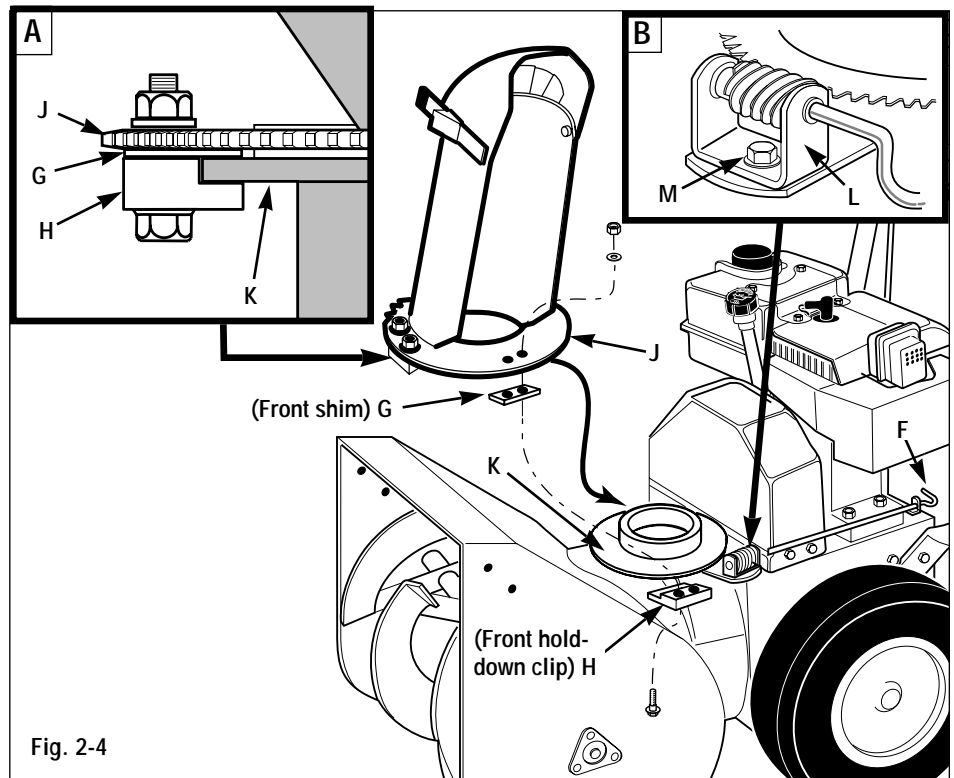

Fig. 2-4
2. Loosen (do not remove) the left and right side sets of plastic shims (G, Fig. 2-4, inset A) and plastic hold-down clips (H, Fig. 2-4, inset A) on the toothed flange (J) of the discharge chute assembly. Remove and save the remaining (front) hold-down clip, shim and mounting hardware.
3. From either side of the unit, slide the discharge chute onto the chute mounting flange (K), making sure that the plastic shims (G) are above the flange and the plastic hold-down clips (H) are below the flange. Tighten the shim mounting hardware securely (if necessary, rotate the discharge chute to the right in order to tighten the left side shim and hold-down clip).
4. Hook the front hold-down clip (H) under the mounting flange (K) and place the front plastic shim (G) on top of the hold-down clip, between the top of the flange and the toothed chute flange. Using two 5/16" wrenches, secure with the screws, washers and locknuts.
5. Remove the plastic cable tie that secures the worm gear assembly (L, Fig. 2-4 inset B) to the mounting bracket.
6. Remove the washer and locknut from the screw (M, Fig. 2-4 inset B) in the worm gear assembly (L). Position the worm gear assembly on the mounting bracket as follows:
- c. Reinstall the washer and locknut on the screw (M) and tighten securely.
- d. Turn chute control rod (F, Fig. 2-4) by hand to be sure the worm gear and discharge chute rotate freely, but with enough resistance to prevent free rotation of the discharge chute during snow removal operation. Readjust position of worm gear assembly as necessary.
5. Rotate the chute control crank (Z, Fig. 2-6). The deflector chute should turn freely. Adjust the worm gear assembly bracket (L, Fig. 2-4) as necessary to prevent binding.